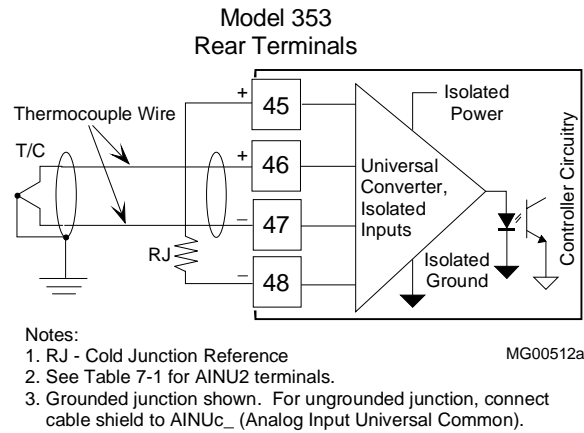

Figure 7-13 Universal Analog Input AINU1, Thermocouple Input
Thermocouple input wiring is shown in Figure 7-13. Shown is a typical grounded tip thermocouple. If an ungrounded thermocouple is used, the thermocouple wire shield can be grounded at the Siemens 353. Thermocouple wire often has a solid conductor. Make connections as outlined in Section 7.4.1. Be sure that the solid conductor is satisfactorily clamped by the terminal screw and pressure plate. Two reference junctions (RJ) are supplied in the I/O Expander board installation kit. Install as outlined below.